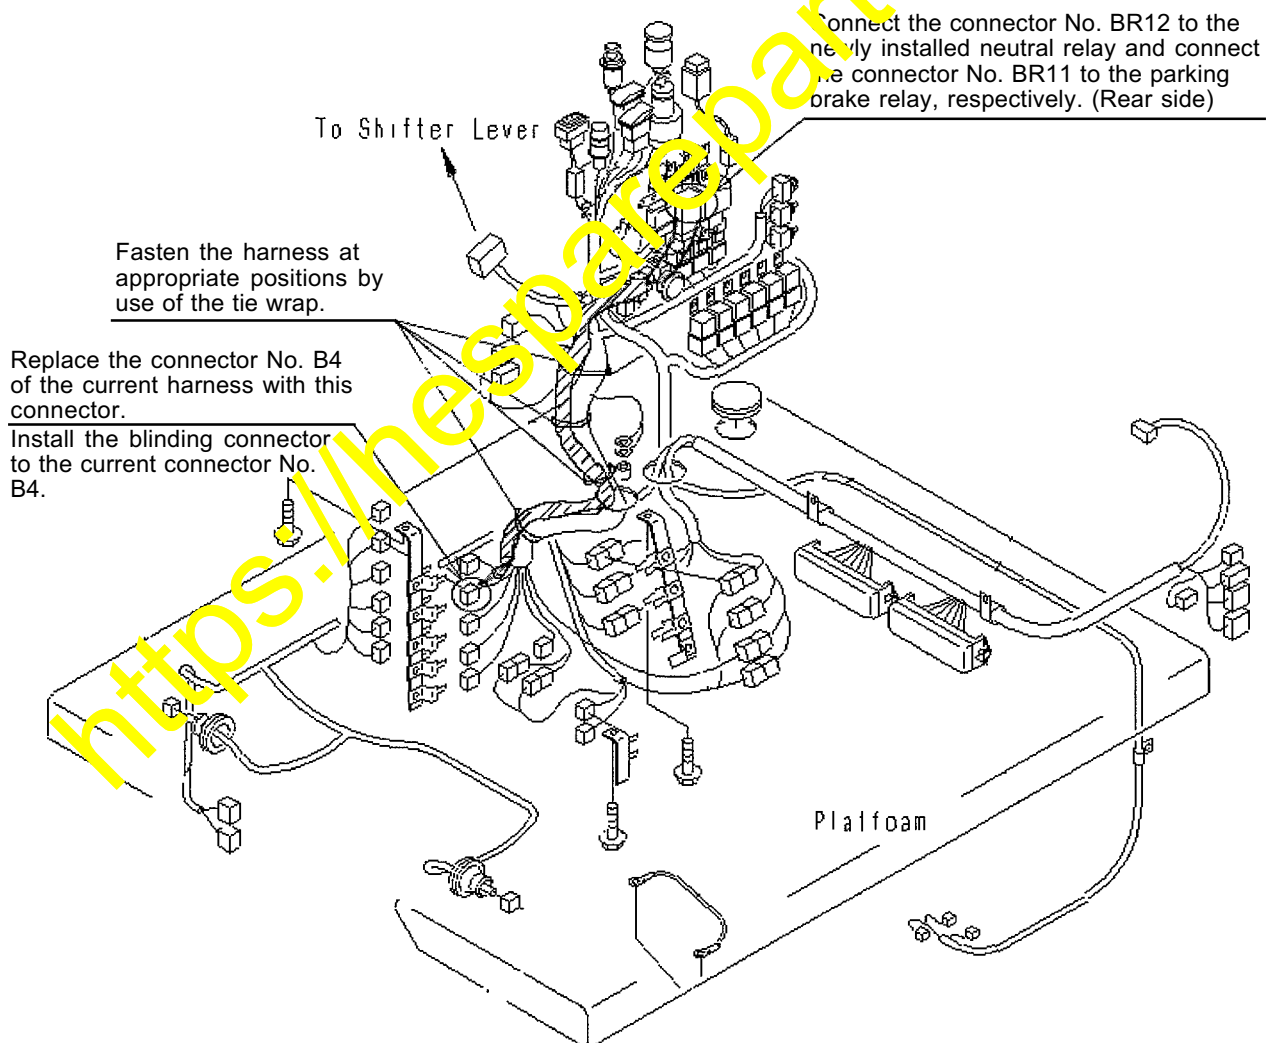

Fig. 5
5) Installing the additional harness (RH console box) (Refer to Fig. 5.)